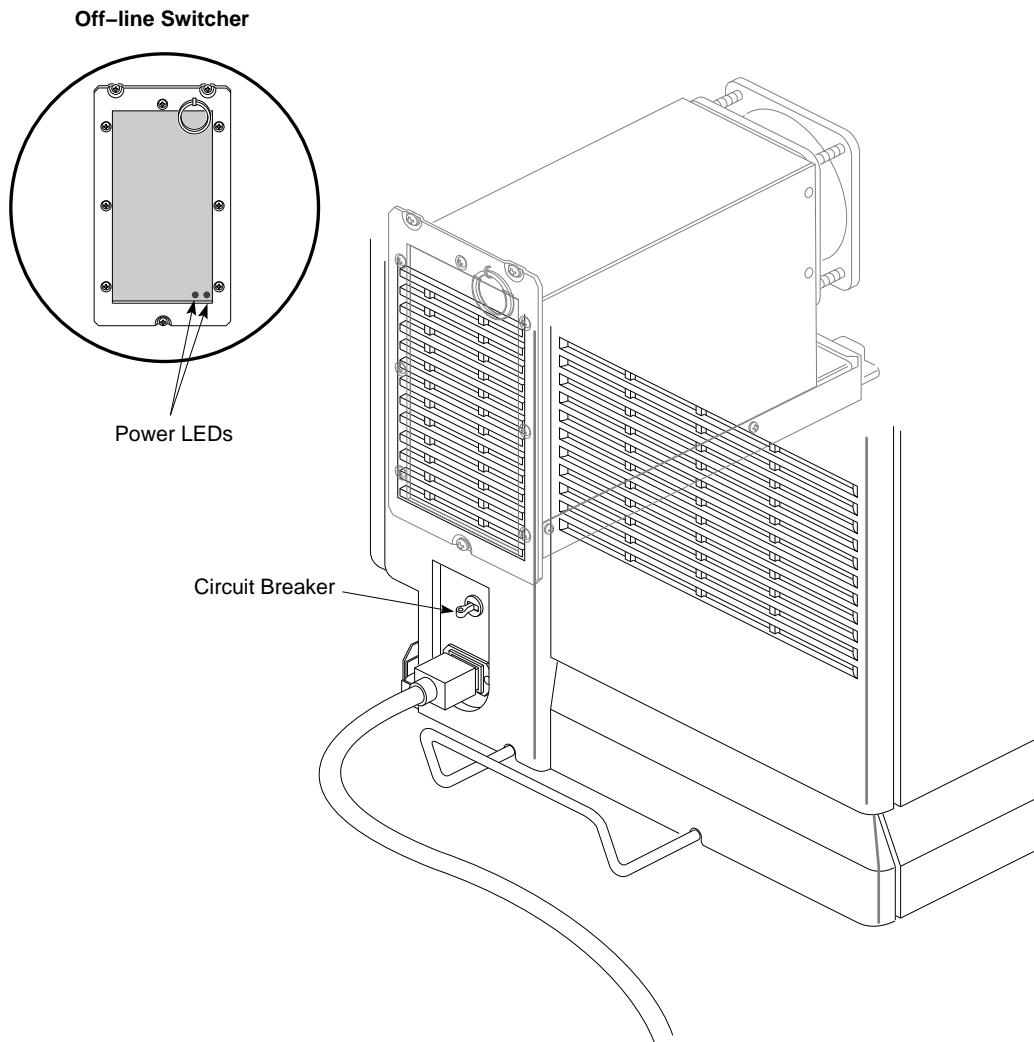

Figure 5-6 CHALLENGE/Onyx Main Power Switch
1. Turn on the main power switch on the back of the unit (see Figure 5-6).